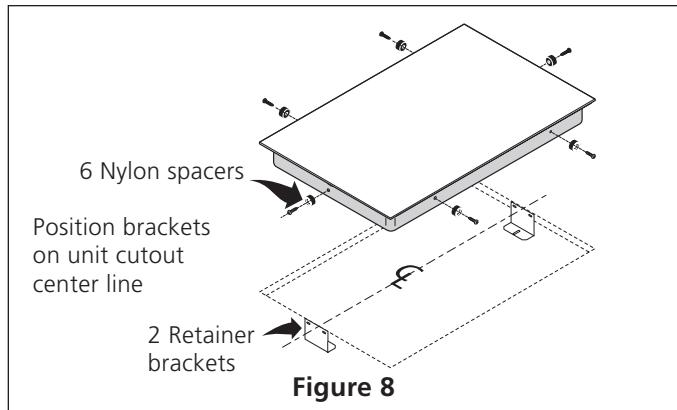

**Figure 7**
2. Install the retainer brackets. See Figure 7
The retainer brackets **MUST** be installed, to meet local codes or, in their absence, with the National Electrical Code ANSI/NFPA No. 70—latest edition, or with CSA Standard C22.1, Canadian Electrical Code, Part 1 (see Figure 7).